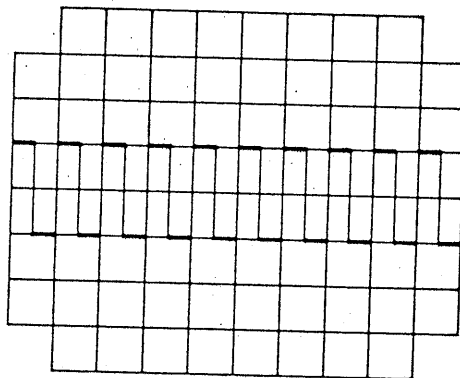

Fig. 5
- 3) Connect the signal of the CAL (1 Vp-p) terminal to the vertical INPUT terminal (9) using the lead with BNC connector or other appropriate cord.
- 4) Set the GND (11) switch in the popped up state () , and so adjust the LEVEL knob (16) that the displayed waveform becomes stationary. A waveform as shown in Fig. 5 should be displayed on the CRT screen.